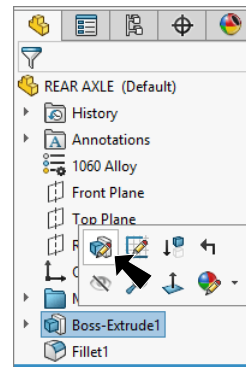

Fig. 13
Step 1. Click **Boss-Extrude1** in the Feature Manager and click **Edit Feature** in the content toolbar, Fig. 13.